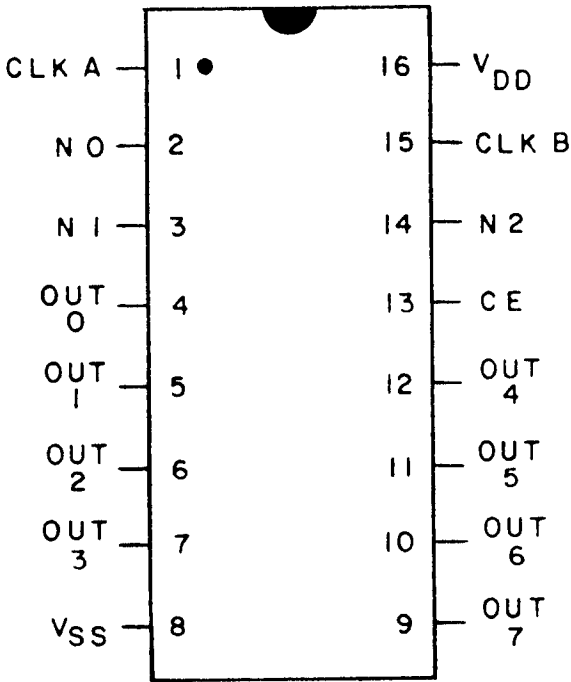

FIGURE 1. Terminal connections.
3.2.1 Terminal connections. The terminal connections shall be as specified on figure 1.